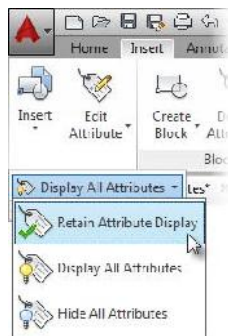

FIGURE 9.39: Returning the attribute display to normal
7. To return the attribute visibility to this state, click the down arrow next to the Display All Attributes button on the expanded Block panel within the Insert tab, and then click Retain Attribute Display (see Figure 9.39).